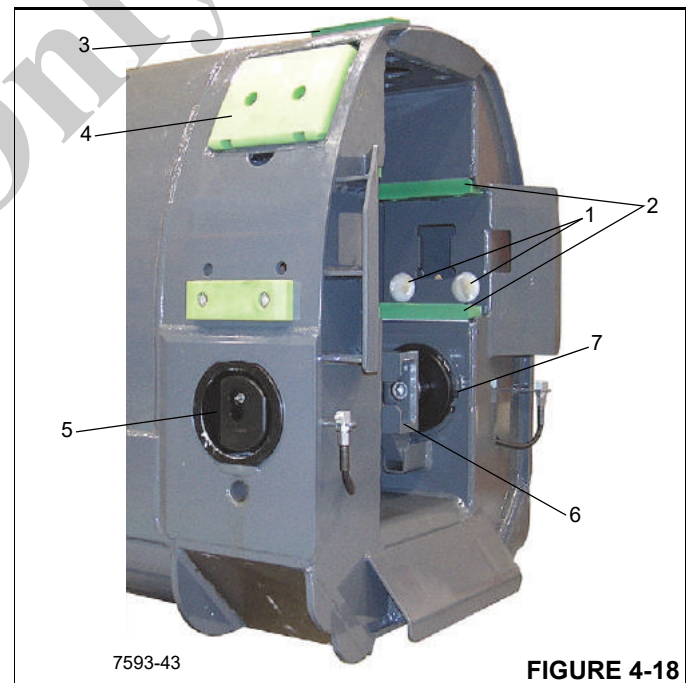
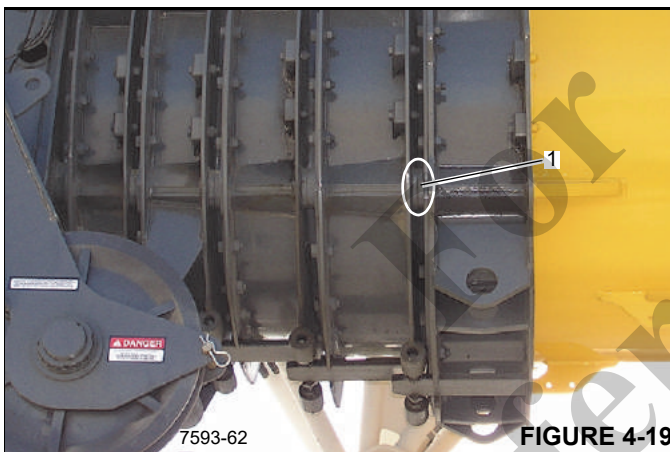

FIGURE 4-18
FIGURE 4-19
2. Remove the round button pads (1) (Figure 4-18) from the related holes in the rear portion of the section.
3. Remove the four sliders (2) and shims from the upper and lower rails in the rear portion of the section.
4. Remove the two bottom outer wear pads (3) and shims from the section.
5. Remove the two side outer wear pads (4) from the section.
6. Remove the two section pin assemblies (5):
- a. Remove connecting link (C-link) (6).
- b. Remove snap ring (7) in the OD groove of the guide tube. Remove pin assembly from the outside of the section.
7. Remove stop block plates (1) (Figure 4-19) and shims from the stop block mounting bosses on each side.
2. Remove the round button (1) (Figure 4-18) pads from the related holes in the rear portion of the section.